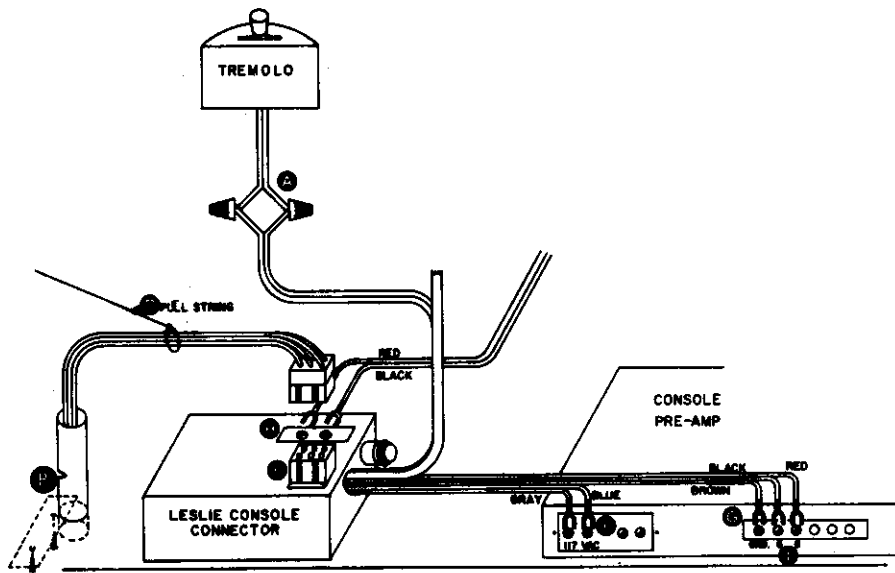

Fig. 1
3. Mount the console connector chassis inside the organ to the left of the HAMMOND pre-amplifier. Locate it within reach of the HAMMOND down tube (see Fig. 1), preamplifier, and Tremolo control cable. Use cadmium plated screws provided.
4. Connect the wires from the Tremolo control cable to the AC type wires attached to the console connector. Use wire nuts provided. (See "A" on Fig. 1)
5. Locate the down tube atop the HAMMOND junction box and remove its screws and locking clamp. (See "B" on Fig. 1) Slide tube up about 3 inches to make room for the console connector extension.
7. Drop a pull string through the down tube and tie it to the extension cable plug. (See "D" on Figs. 1 & 2)
8. Pull the extension cable up the tube and insert it into its socket on the console connector chassis. (See "E" on Fig. 1)
10. Connect BLUE and GREY console connector wires to the 117 VAC terminals behind the protective cover on the HAMMOND preamplifier. (See "F" on Fig. 1)
11. Connect BROWN console connector wire to the "GND" terminal on the HAMMOND pre-amplifier. (See "G" on Fig. 1)
12. Remove RED and BLACK wires from the two "G" terminals on the HAMMOND preamplifier. Connect these wires to the two screw terminals on the console connector chassis. (See "H" on Fig. 1)
13. Connect RED and BLACK console connector wires to the two "G" terminals on the HAMMOND preamplifier. (See "I" on Fig. 1)